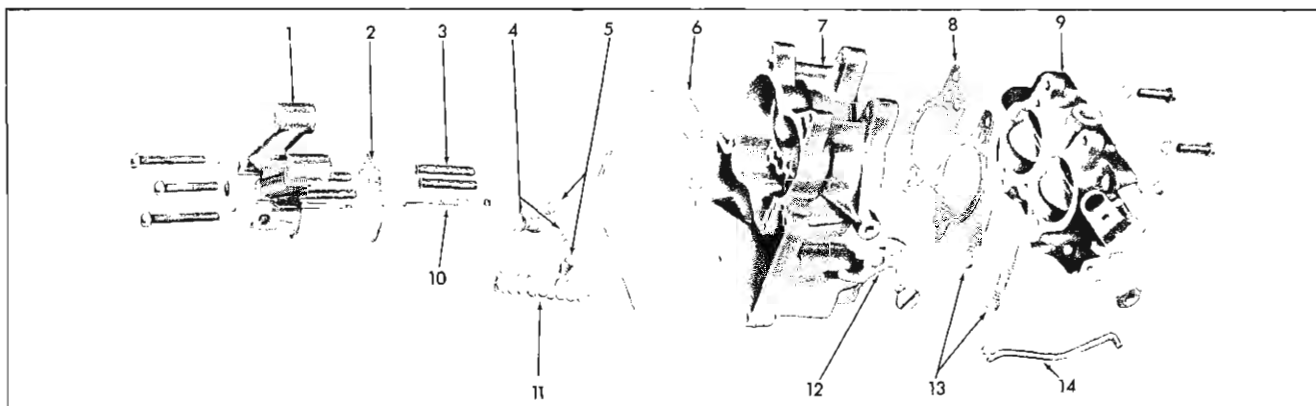

Fig. 34—Bowl and Throttle Body—Exploded View
Bowl and Throttle Body (fig. 34)
6. Remove idle adjusting needles and springs from throttle body. Figure 34 shows the bowl and throttle body exploded.
Throttle body and Bowl (fig. 34)